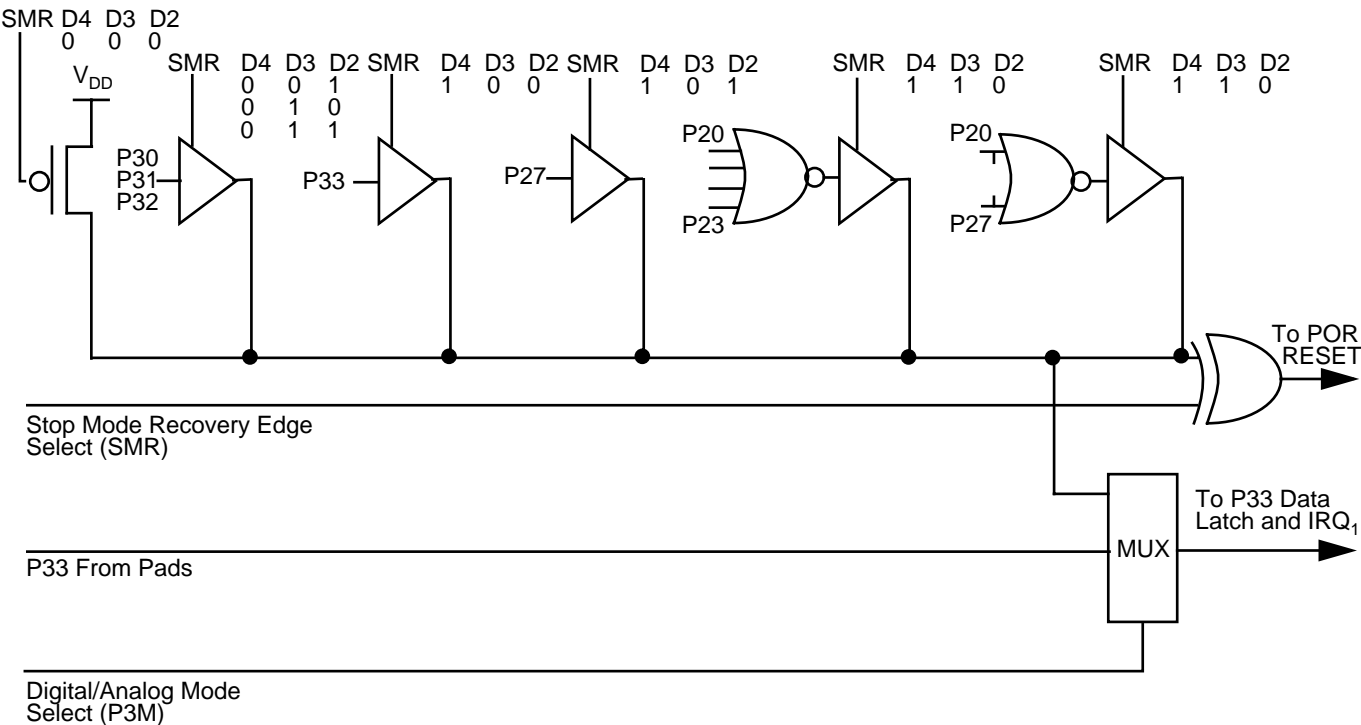

Figure 8-2. STOP-Mode Recovery Source
**STOP-Mode Recovery Source (D2, D3, and D4).** These three bits of the SMR specify the wake-up source of the STOP recovery and (Table 8-1 and Figures 8-2).
**STOP-Mode Recovery Edge Select (D6).** A 1 in this bit position indicates that a high level on any one of the recovery sources wakes the Z8 from STOP mode. A 0 indicates low-level recovery. The default is 0 on POR (Figure 8-2).